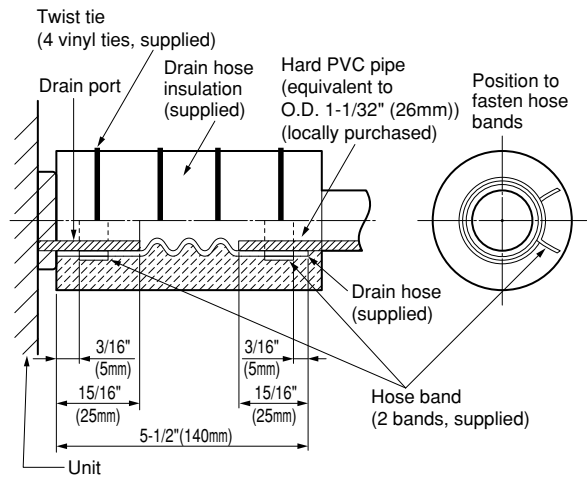

Fig. 6-5
- (1) Prepare standard hard PVC pipe (locally purchased O.D. 1-1/32" (26 mm)) for the drain and use the supplied hose band to prevent water leaks. (Fig. 6-5)
- (2) To install the drain hose, first place 1 of the 2 hose bands over the unit drain port and the other hose band over the hard PVC pipe (not supplied). Then connect both ends of the supplied drain hose. (Fig. 6-5)
- (3) On the unit drain side, grasp the hose band with pliers and insert the drain hose all the way to the base.